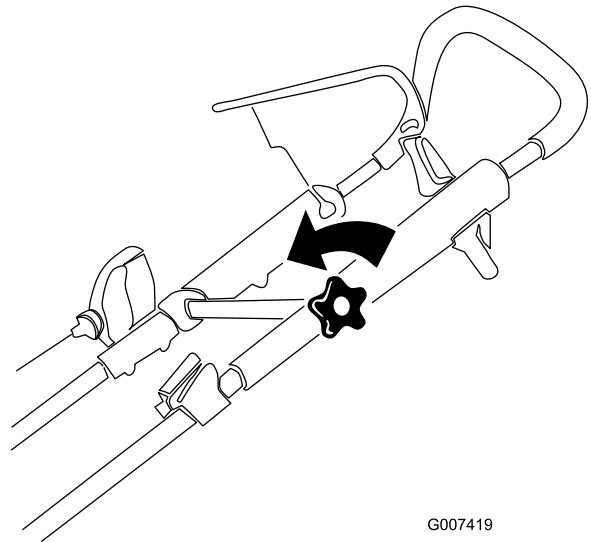

Figure 19
1. Loosen the upper-handle knob (Figure 19).
3. Tighten the upper-handle knob firmly (Figure 19).